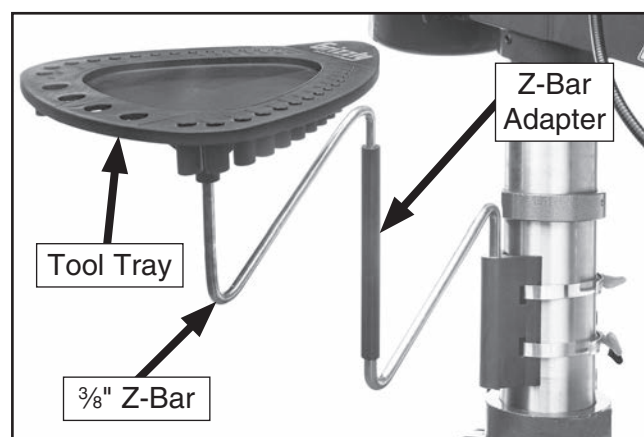

Figure 5. Drill press tray installed.
6. Mount Z-bar adapter on $\frac{1}{2}$ " Z-bar (see **Figure 5**).
7. Mount $\frac{3}{8}$ " Z-bar into Z-bar adapter (see **Figure 5**).
8. Insert tool tray on top of $\frac{3}{8}$ " Z-bar (see **Figure 5**).